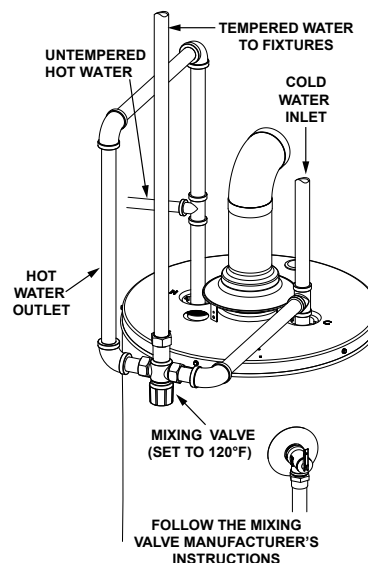

FIGURE 23.
3. The manufacturer of this water heater recommends installing a mixing valve or an anti-scald device in the domestic hot water line as shown in Figure 23. These valves reduce the point-of-use temperature of the water by mixing cold and hot water and are readily available for use.